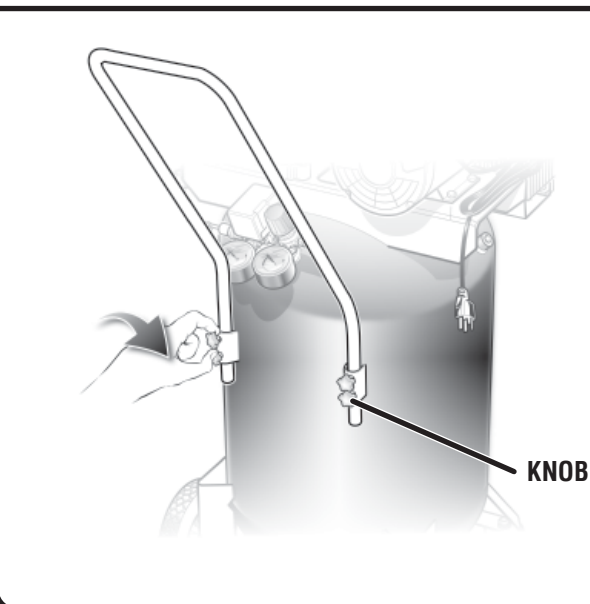

Fig. 5
- Line the holes of the handle with the ones on the slots of the compressor. Then insert the two knobs and tighten firmly to secure the handle in position (Fig. 5).